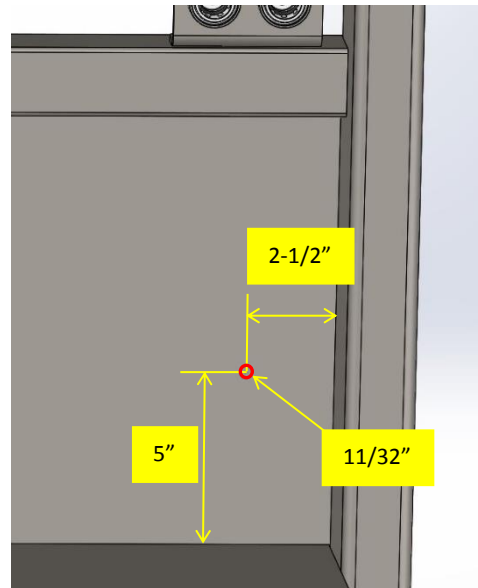

Figure 6
10. Measure 5" from the top of the Hydrabed floor plate and 2-1/2" from the inside of the headache rack tube and drill a 11/32" hole through the Hydrabed headache rack filler sheet. Figure 6